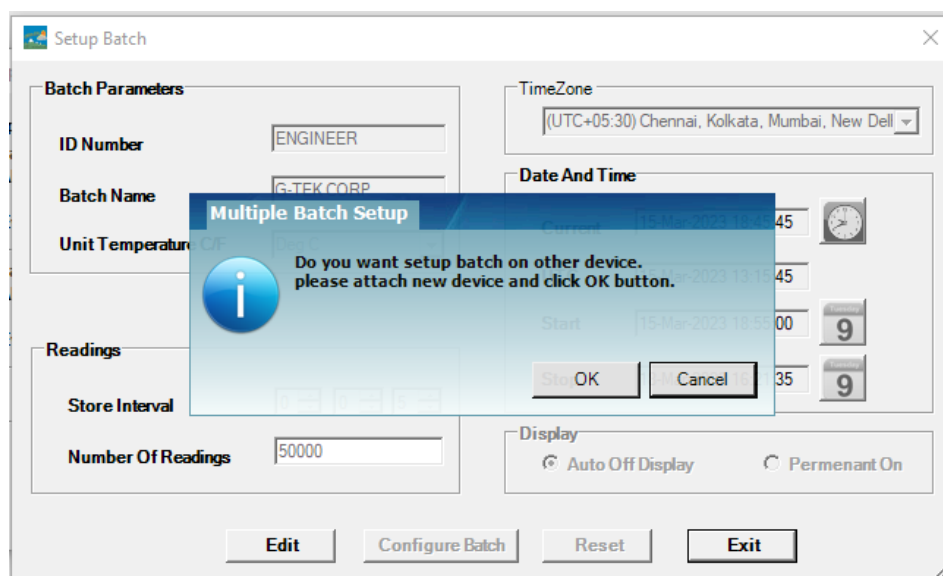

Figure 6 Set up Batch on Multiple devices
- After configuring the first device, the message window will pop up as shown in figure 6. Connect another device to the PC application, click on “**OK**” button to proceed further.